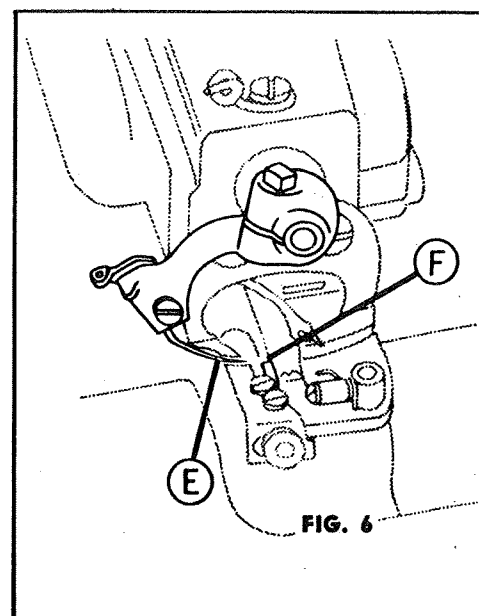

FIG. 6
IMPORTANT: First test needle to make sure there is no bur or it is not bent. To check for bur, rub fingernail across point. If needle is bent, it will not rest firmly on needle guide Fig. 6. (F)
4. EYE of Needle should be at point (E) (Fig. 6) when Needle Lever (C) is at its highest point.